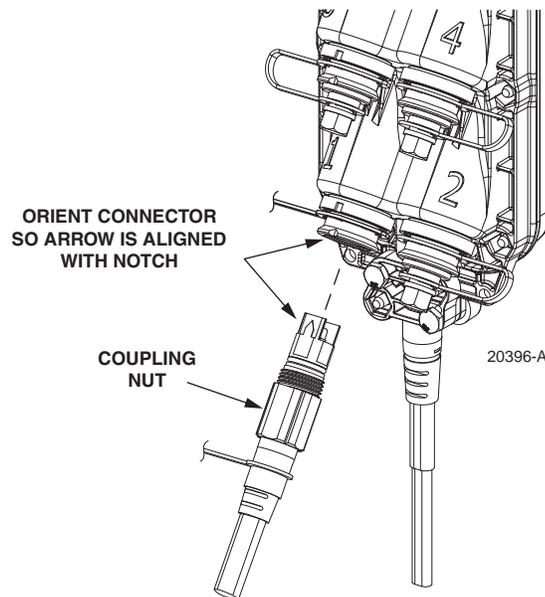

Figure 15. Connecting Drop Cable To MST Optical Port
5. Align the drop cable connector with the optical port as shown in Figure 15. The pointer on the drop cable connector should line up with the notch on the optical port.
2. Unscrew the drop cable connector coupling nut from the optical port (see Figure 15).